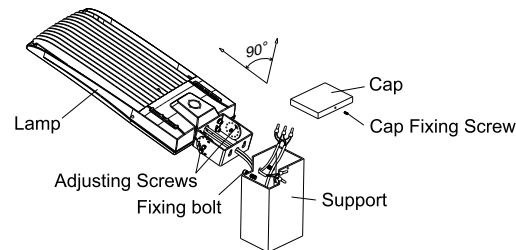

Figure 20
Step 1: Loosen cap fixing screw and take cap off. Loosen fixing bolt, fixed the fixture on the support and tighten fixing bolts. (Figure 20)
Step 2: Let the AC wire go through support hole and connected correctly. Close cap and tighten cap fixing screw after AC cable is well placed in the support. (Figure 20)
Step 3: Loosen adjusting screws, align the fixture to required angle and fasten the screws. (Figure 20)